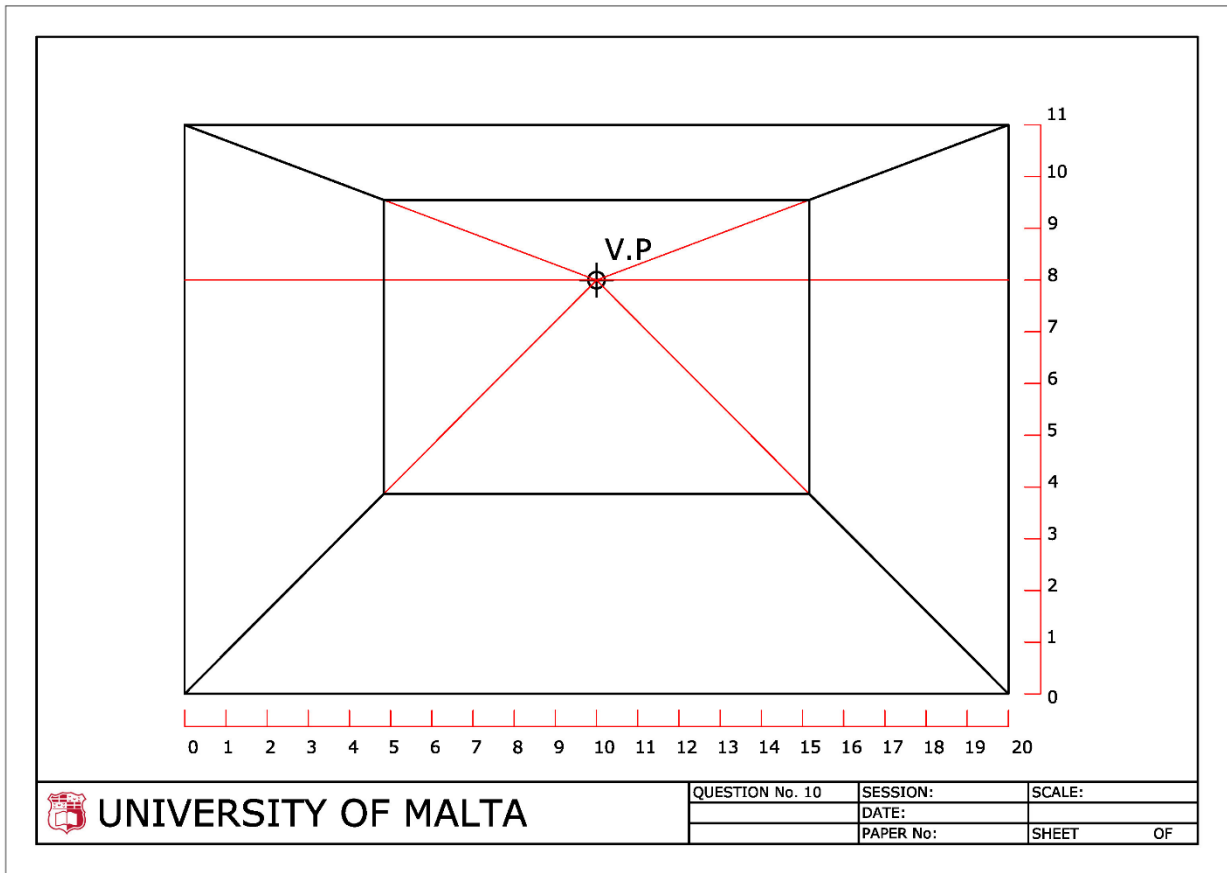

Figure 10c
- a) Use the dimensions given in the orthographic projection to construct an estimated one-point perspective of the storage garage. The viewing direction required is indicated by the arrow in the plan. Use the suggested vanishing point shown in Figure 10c. (21)
- b) Render in colour your drawing to enhance its presentation. (3)